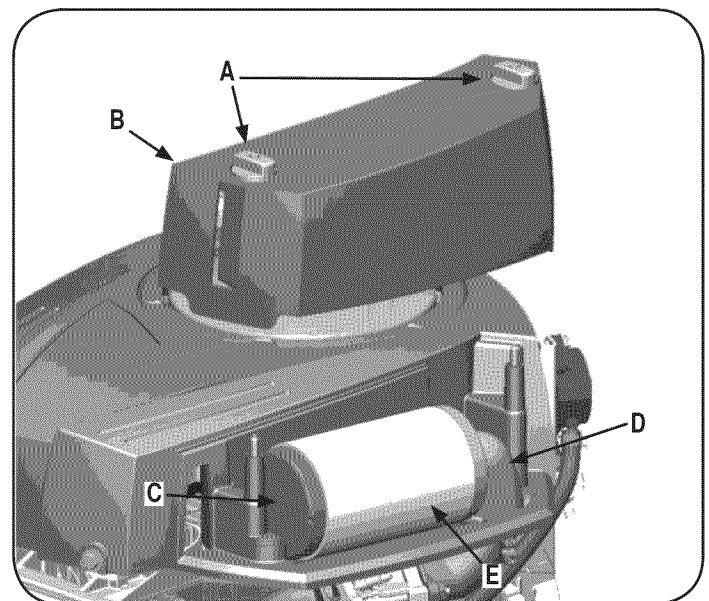

Figure 12
1. Remove the fasteners (A) and the air filter cover (B). See Figure 12.
2. To remove the filter (C), lift the end of the filter and then pull the filter off the intake (D).
3. Remove the pre-cleaner (E), if equipped, from the filter.